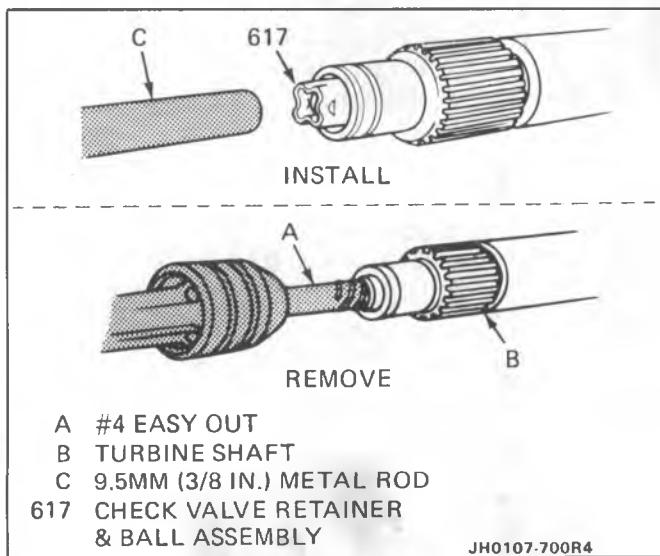

Figure 59 Retainer and Ball Assembly - Replacement
Check Valve Retainer and Ball Assembly - Replacement Procedures**Remove or Disconnect (Figure 59)****TOOLS REQUIRED:**
**Install or Connect (Figure 59)****TOOLS REQUIRED:**